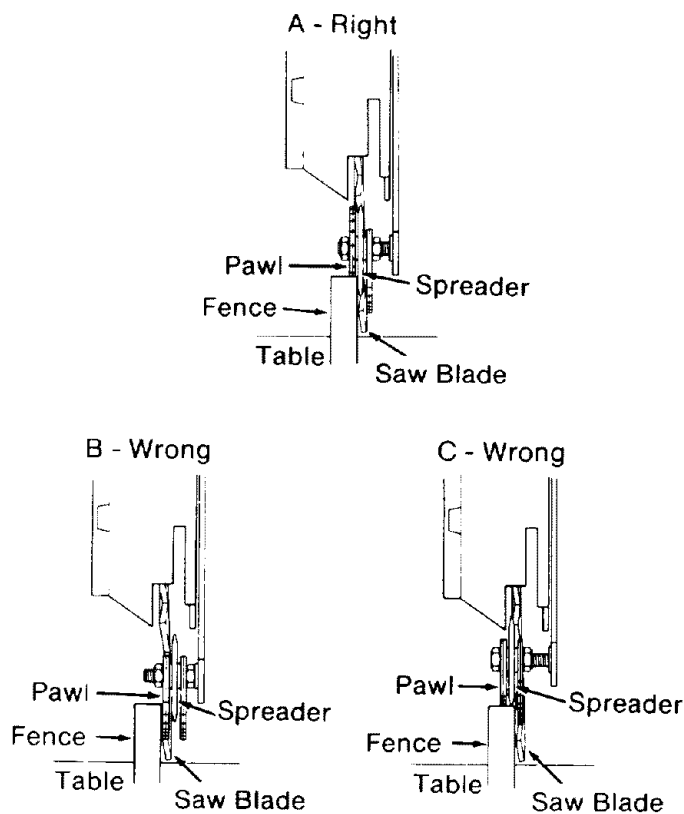

Fig. 101- A,B,C
12. If the *spreader* and *blade* both rest against the *fence*, no adjustment is needed. (Figure 101-A) Go to step 17, or
If the *spreader* is in front of the *fence* but not touching it (Figure 101-B), go to step 13, or
If the *spreader* hits the top of the *fence* (Figure 101-C), go to step 13.